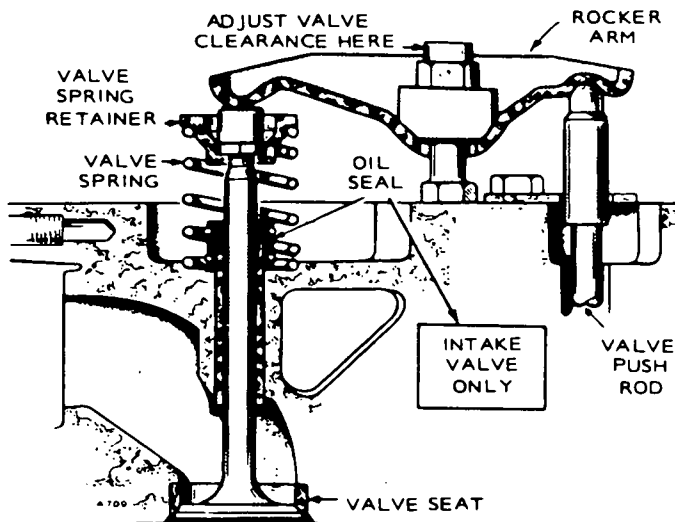

FIGURE 18. VALVE CLEARANCE ADJUSTMENTS
3. Valve clearance is adjusted with the locknut which secures rocker arm to the cylinder head (see Figure 18). Loosen the locknut to increase clearance and tighten to reduce clearance.